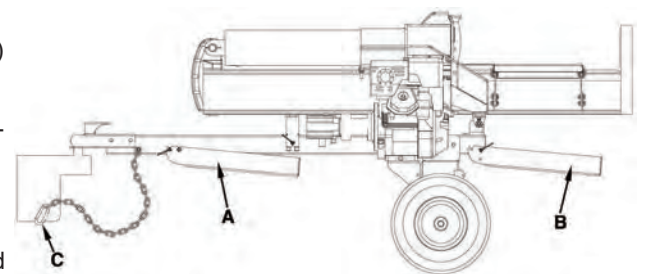

Figure 26
- 7) Attach safety chains (C) Fig.26 to vehicle. The two safety chains must be used while towing. Cross safety chains under the coupler allowing only enough slack for vehicle turns.
- 8) Lock the front outrigger leg (A) Fig.26 in the "UP" position and the rear support leg (B) in the "UP" position. (Both outrigger legs must remain in the up position during towing.)